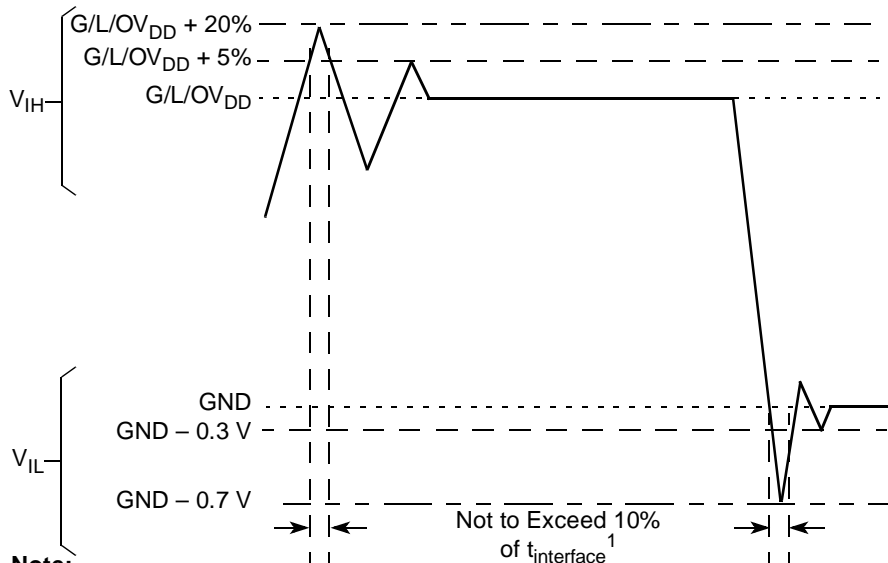

Figure 2. Overshoot/Undershoot Voltage for $GV_{DD}/OV_{DD}/LV_{DD}$
- ⁵ (M,L,O) V_{IN} and MV_{REF} may overshoot/undershoot to a voltage and for a maximum duration as shown in Figure 2.
Figure 2 shows the overshoot and undershoot voltages at the interfaces of the MPC8347E.